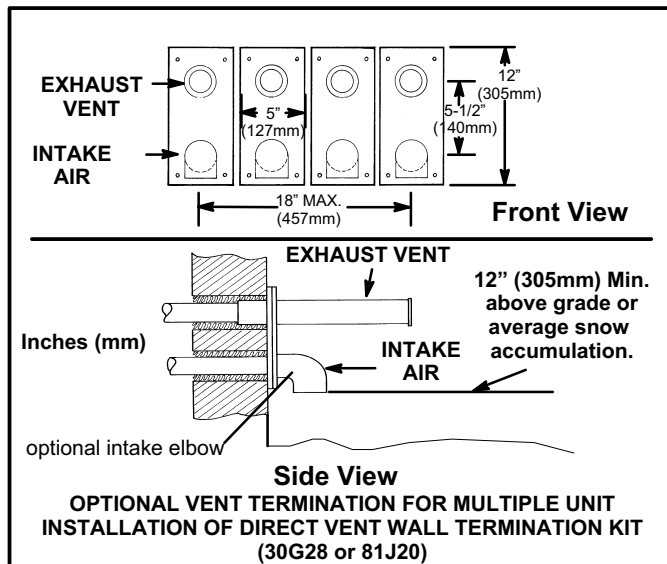

FIGURE 40
- 8 - A multiple furnace installation may use a group of up to four terminations assembled together horizontally, as shown in figure 40.